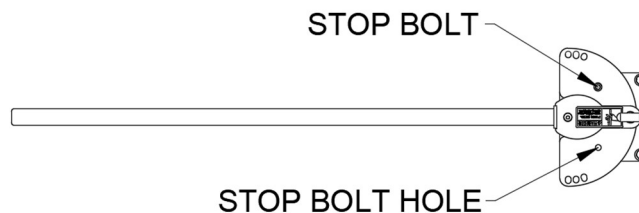

Figure 3: Swing Direction Adjustment
4. Swing direction may be adjusted (See Figure 3)